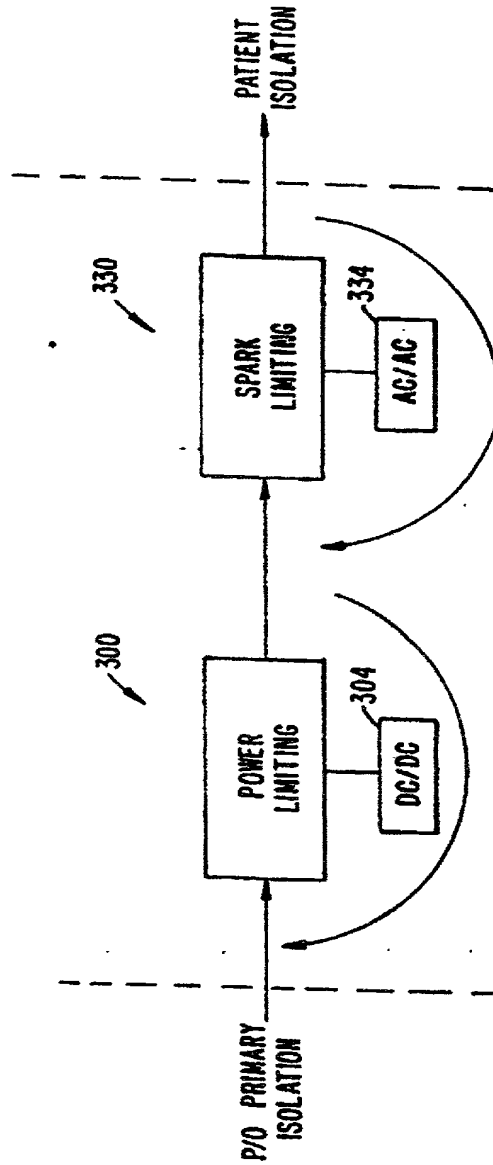

FIG. 21.
FIG. 21 is a block diagram of a power supply system 300. The system 300 is divided into two main sections by dashed vertical lines. The left section is labeled "P/O PRIMARY ISOLATION" and contains a "POWER LIMITING" block (304) which is connected to a "DC/DC" converter block (304). The right section is labeled "PATIENT ISOLATION" and contains a "SPARK LIMITING" block (334) which is connected to an "AC/AC" converter block (334). A curved arrow indicates a feedback or control path from the output of the "SPARK LIMITING" block back to the "POWER LIMITING" block. The entire system is enclosed within a dashed rectangular boundary.